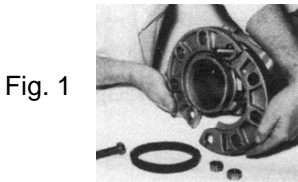
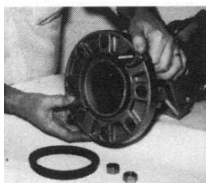

Fig. 1
Fig. 2
3.1 Position the two halves of Armgrip™ Flange adapter on the valve body (Fig. 1) ensuring that the lugs on each half of the flange adapters are located between the anti-rotation lugs on the valve body. Insert two bolts of specified size (Table 1) to secure the halves of the flange adapter to the valve body (Fig. 2). The gasket cavity should face out to the adjoining flange.
- 3.4 Position the adjoining flange or the pipe to the Armgrip™ Flange Adapter and install the remaining bolts. The two locking bolts should be tightened first in order to position the flanges correctly as shown in Fig. 1.